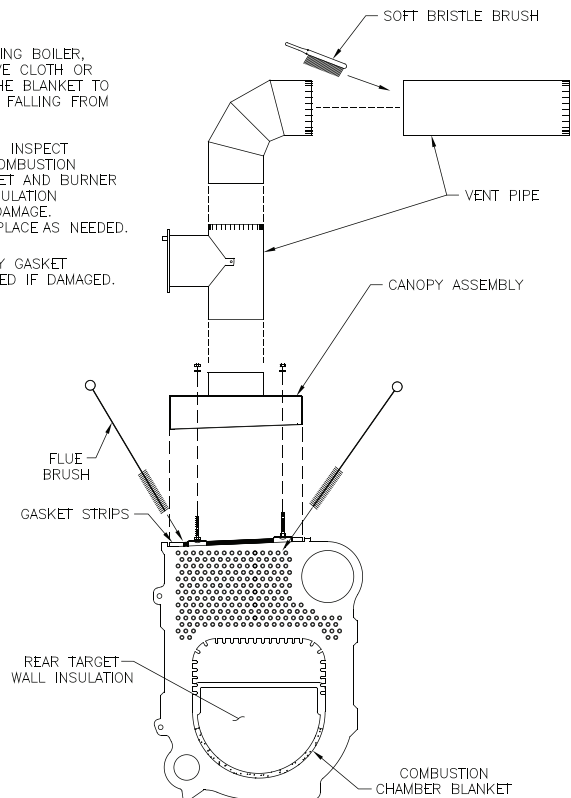

Figure 16: Cleaning of Boiler Flueways
A. CLEAN THE FLUEWAYS (See Figure 16).